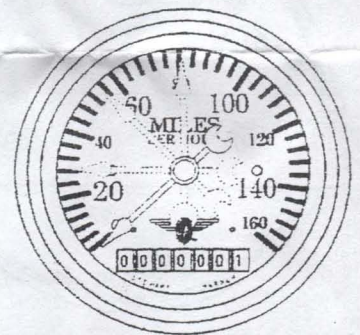

Figure 5
4. Once in calibration mode momentarily press the **CALIBRATION** button a second time to begin calibration. The dial will sweep between 0 and half scale to indicate that it is currently counting pulses (Figure 5).
5. Drive the vehicle **EXACTLY** one (1) measured mile then stop.